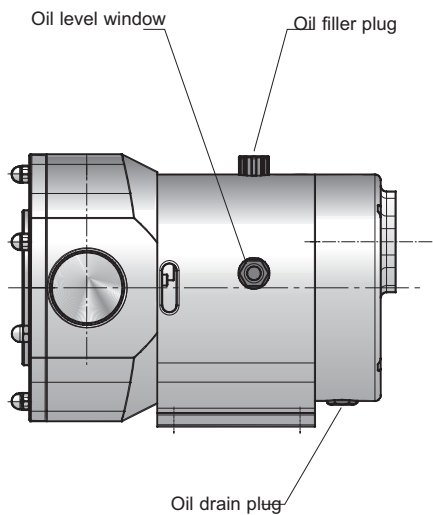

Figure 9
3. Replace the oil drain plug **18**, (see figure 9).